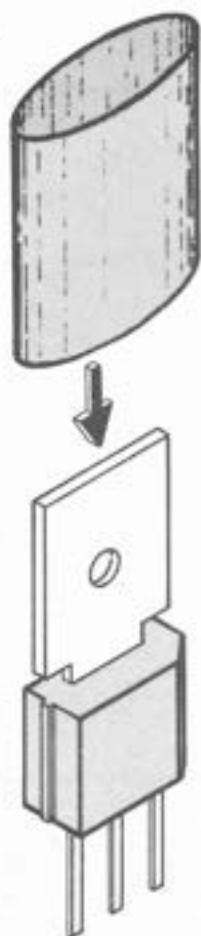

Figure 42. Installing heat-shrinkable tubing on transistor tabs.
(3) Cut five 1/2" lengths of shrinkable tubing (IN903). Refer to Fig.42 and place one of these 1/2" sleeves over each of the following collector tabs: Q301, Q302, Q219, Q220, and Q101 . . . ()